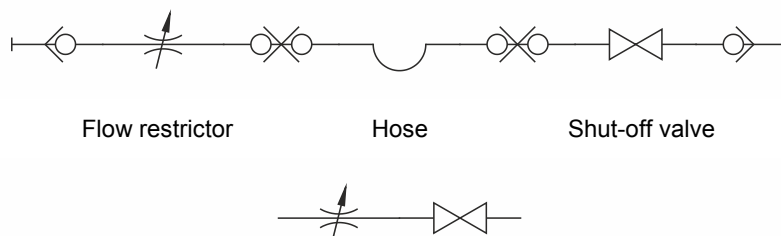

Fig. 3:
- If the connections are released under pressure, pressure is locked into the valve or device via the non-return valve in the coupling (see Fig. 3). This pressure can be reduced by means of pressure relieving device Pt. No. 152971. Exception: This is not possible in the case of hoses and non-return valves.